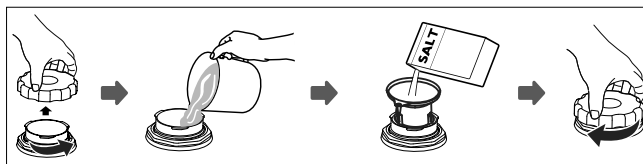

Fig. 13 – Filling with salt
- ▶ Remove the dish rack (6) and twist the lid off the salt container (11).
- ▶ Fill the salt container with approx. 1 l water before the first use (see Fig. 13).
- ▶ Use a suitable aid such as a normal household funnel to pour 130 g of dishwasher salt into the opening on the salt container (11). It is normal if water escapes from the salt container.
- ▶ Once the container has been filled, twist the lid clockwise to tighten (see Fig. 13).